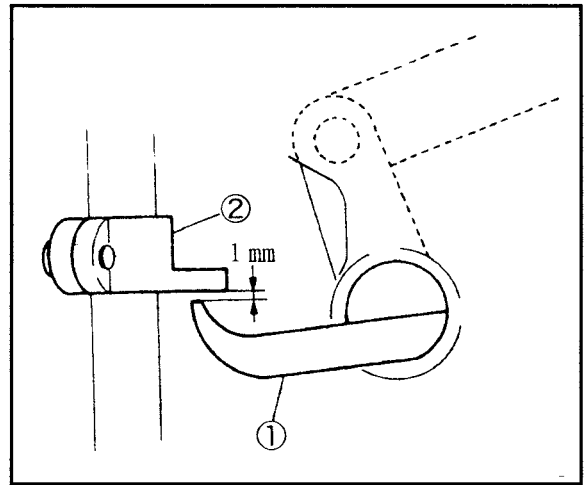

Fig. 6
1. As standard, make the clearance between the presser bar lifter lever ① and the presser bar connecting bracket ② to 1 mm when the presser foot touches the stitch plate closely.(Fig. 6,7)
1. 當壓腳緊貼在針板上時，在抬壓腳連接軸 ① 跟壓腳連接托架 ② 留 1mm 的間隙。(Fig. 6,7)